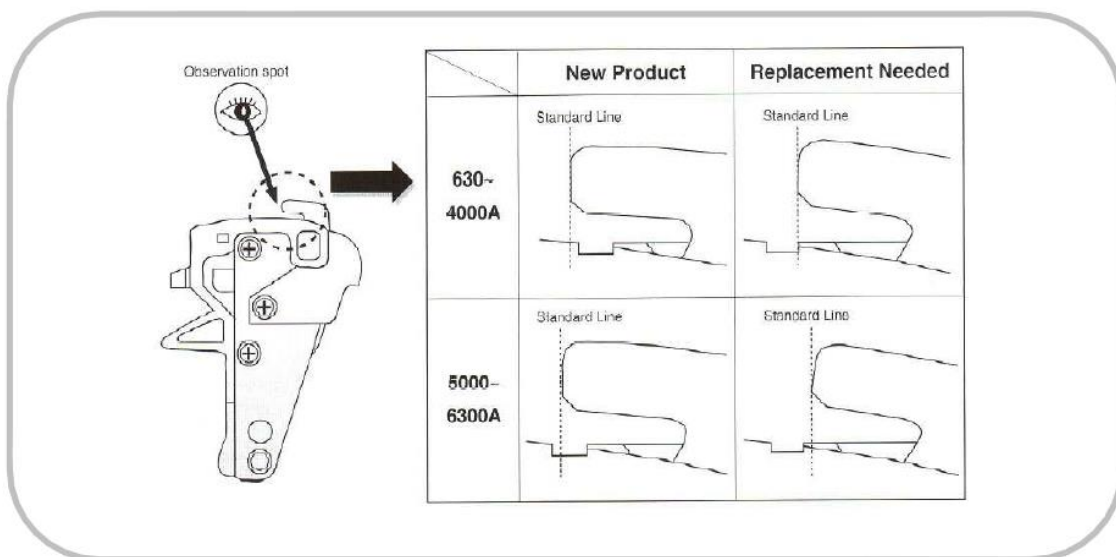

Fig. 8. The standard figure for contact replacement
3. Close the circuit breaker and compare the condition of the moving contact as below Fig. 8.